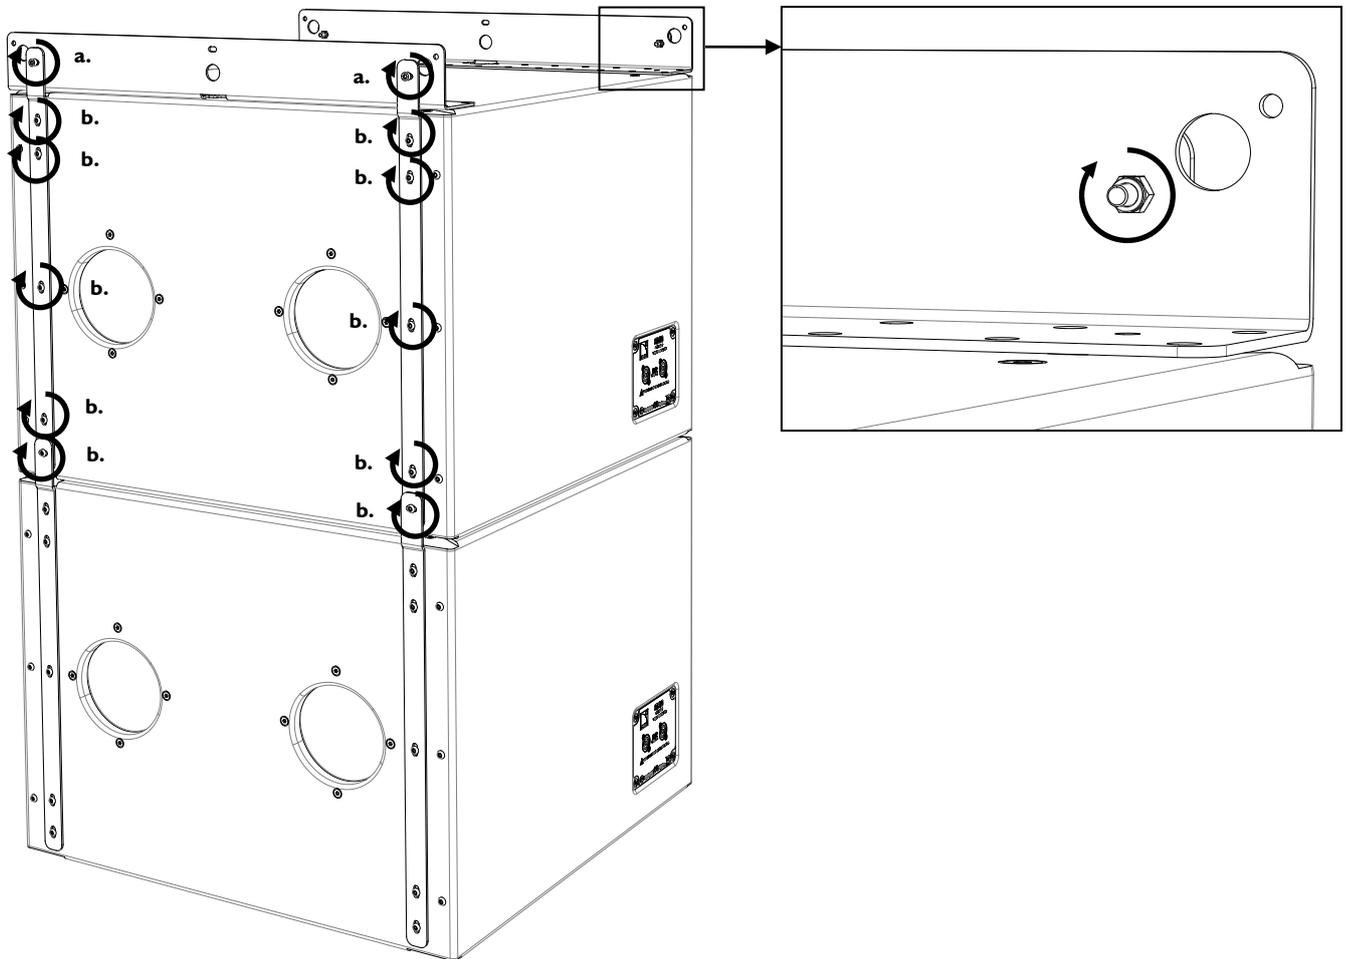

Figure 29: Attaching two M-BUMPI bars to the top SB18i
- a. Position the M-BUMPI bar face to two SB18i arms as shown in Figure 29, and secure it by driving two self-locking M6 hex bolts (included in the M-BUMPI package) (5 mm hex bit, 10 mm hex key, 5 N.m/45 in.lbf).